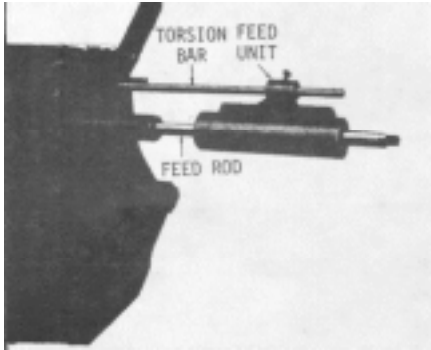

Fig. 4 Location of Feed Rod and Unit
- (5) Install the caps and tighten the bolts on all the remaining saddles, except the saddle to be machined. Do not torque the bolts. This is only to keep chips out of the bolt holes.
- (6) Fasten the torsion bar and the hydraulic feed unit on either end of the cylinder block. Index the flat on the feed rod into the boring bar. Snug the set screw (Fig. 4).